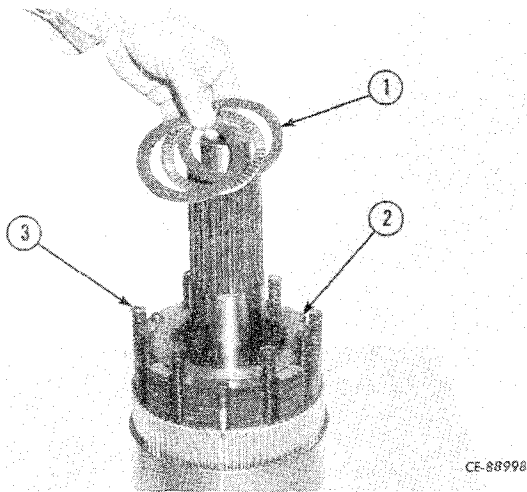

Figure 4-134
Install the bronze and steel discs (2, Fig. 4-134) starting with a bronze and ending with a bronze. Install the clutch return springs (3).
Install lower thrust bearing assembly (1, Fig. 4-134).